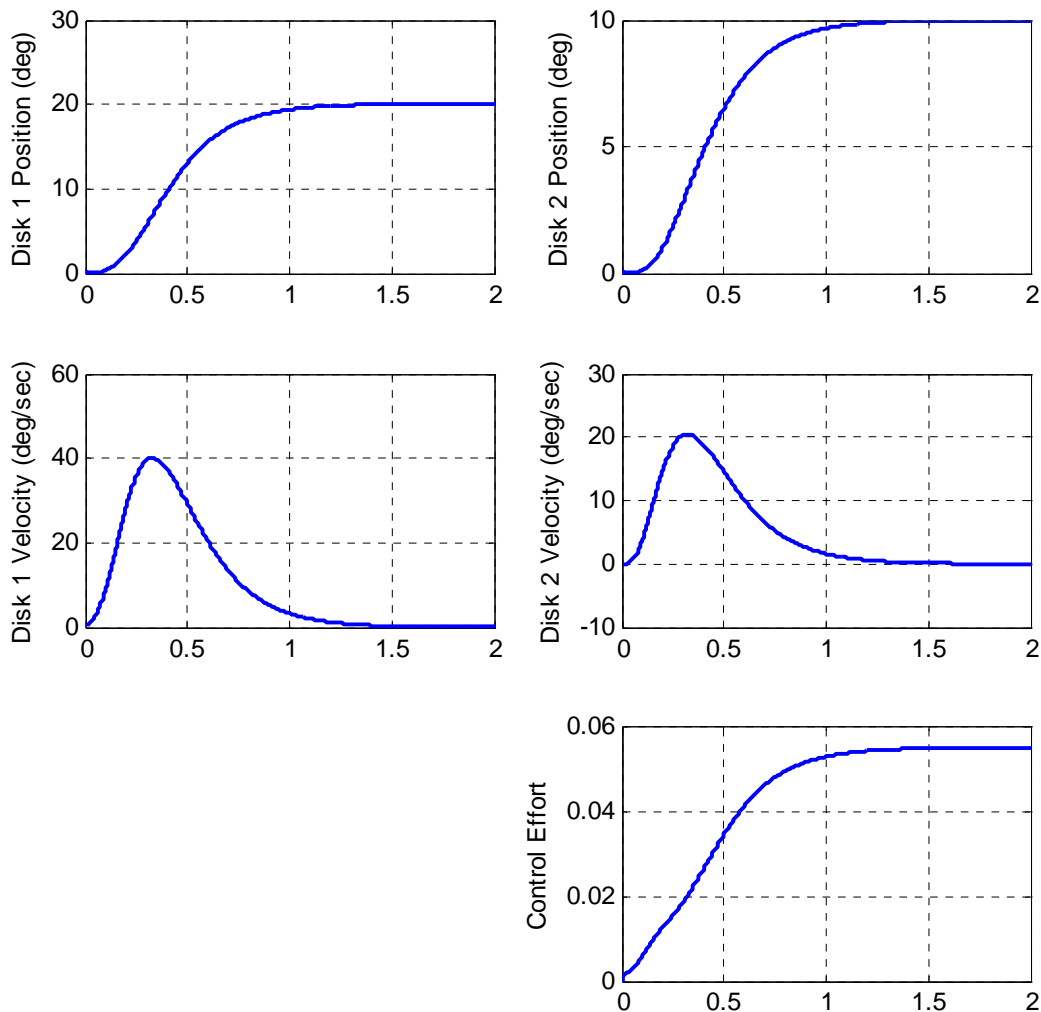

Figure 5. Integral control of a two degree of freedom system. We are controlling the position of the second disk (part 2c).
c) Set the amplitude to 10 degrees, the final time to 2 seconds, and place the poles at -5, -10, -15, -20, -25. We are trying to control the position of the second disk. Run the simulation and you should get results like those shown in Figure 5.